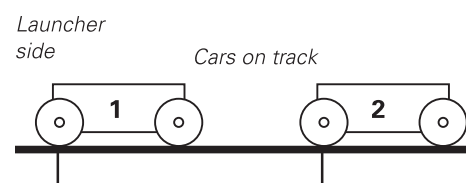

Figure 6
6. **Explain:** Using tape, students should label the left-hand car "1" and the right-hand car "2" (figure 6). Car 1 should be at the end of the track pushed up against the launcher and car 2 some distance away (if desired, all groups can measure a consistent distance and data can be compiled for the class). Students should then make a mark on the track indicating where cars 1 and 2 sit using tape or a dry erase marker. Emphasize the importance of consistency of placement as they experiment (for example, placing the center of the right wheel on the mark each time).